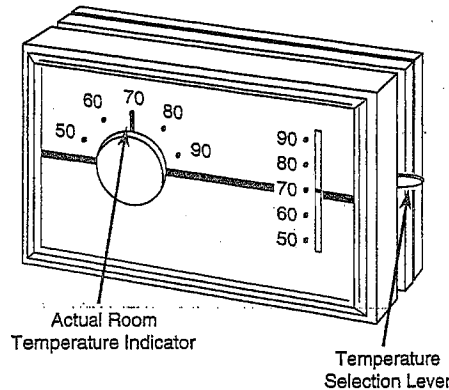

Figure 1
**Temperature Selection:** After the thermostat has been installed, to select a desired temperature, move the temperature selection lever (see fig. 1). The selected temperature is indicated on the scale at the right side of the thermostat. The actual room temperature is indicated by the pointer on the thermometer at the left side of the thermostat. Remember that the difference between a comfortable room temperature and one that is uncomfortable is usually only one or two degrees. Make **small** adjustments to the temperature selection lever when the room temperature becomes uncomfortable.